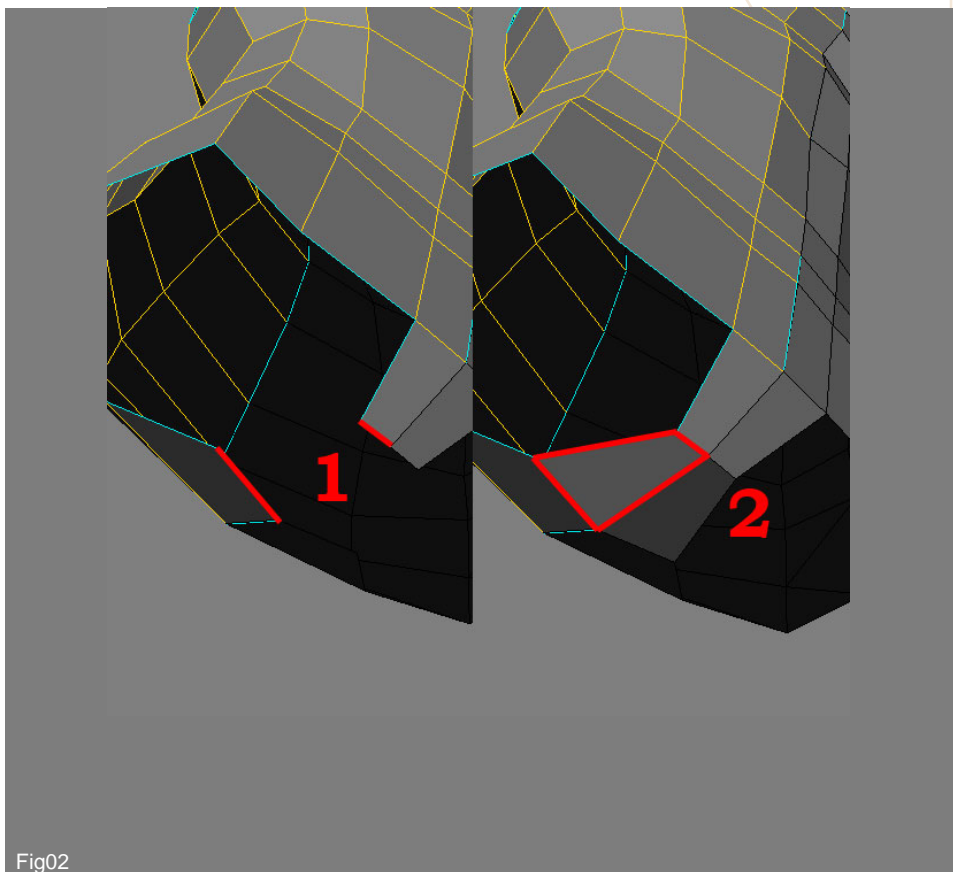

Fig02
2. Move these edges inwards, as shown in part 1 of Fig 02. Now (with the two edges still selected), use the Bridge Boundary Edges to create a new poly (marked in red in part 2 of Fig 02) between them.